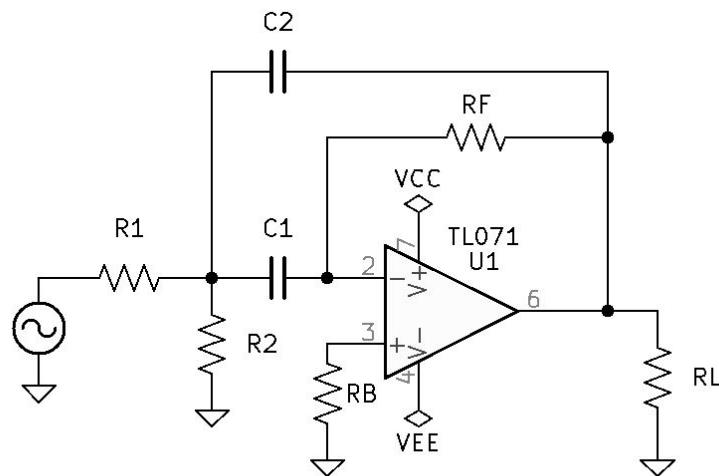

Figure 8.8: Single Stage Band-Pass Second-Order Active Filtering Circuit.
1. See Figure 8.8 *Single Stage Band-Pass Second-Order Active Filtering Circuit* on page 91.